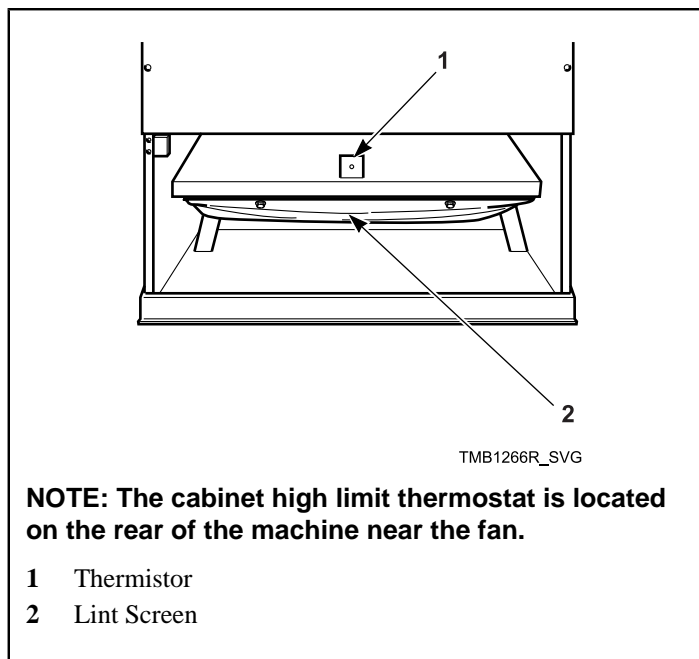

Figure 45
- e. Wipe lint off of the cabinet high limit thermostat and thermistor. Refer to *Figure 45*.